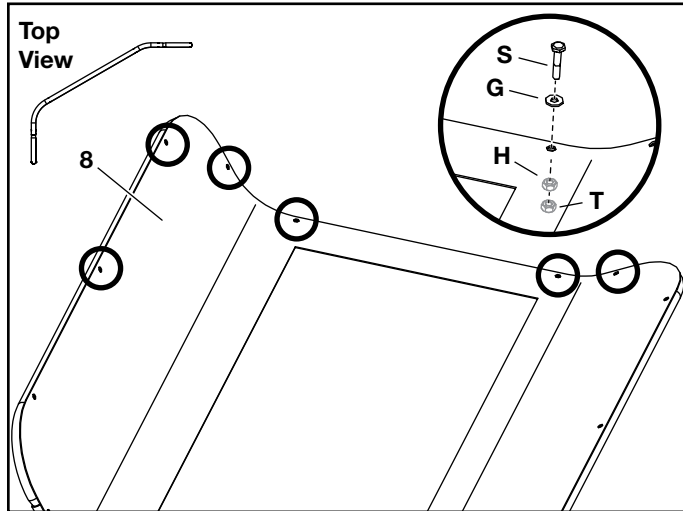

FIGURE 7
STEP 7: (SEE FIGURE 7)
- With the second assembled frame lying flat and the greater angle to the left, place a pusher wall (8) on top with the stitching facing the frame.
- Align the pusher wall holes with the holes in the frame and attach using six hex bolts (S), washers (G), and hex nuts (H) in the holes shown.
- Add an acorn hex nut (T) to each hex bolt and tighten. This is now the left pusher wall assembly with the hex bolts at the top.